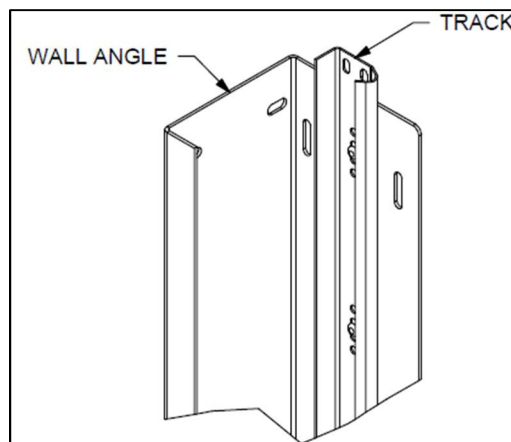

Figure 1 - TOP OF RIGHT-HAND LOWER WALL ANGLE ASSEMBLY
5. Locate lower wall angle and track assemblies. See **Figure 1 & 2** to identify right-hand and left-hand lower wall angles. Note that the track extends above the wall angle at the top.